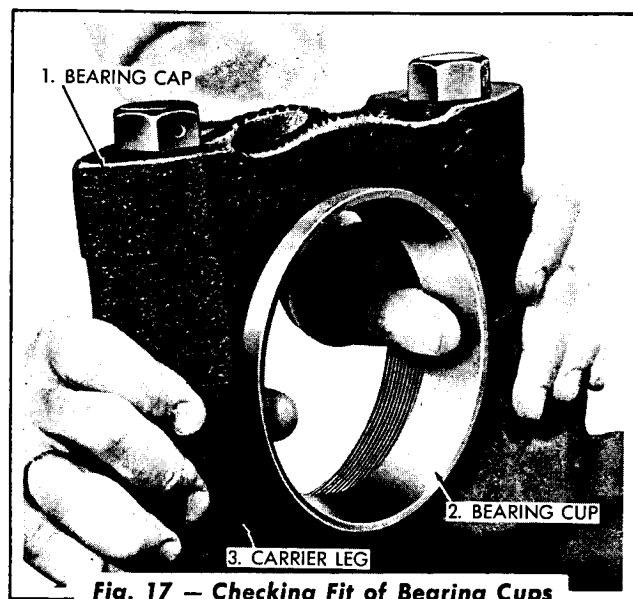

Fig. 17 – Checking Fit of Bearing Cups
L. Installation of Carrier Cups in Carrier Leg Bores (Fig. 17)
Temporarily install the bearing cups, the threaded adjusting rings and bearing caps. Install the bearing cap capscrews and tighten to the proper torque. The bearing cups must be of a hand push fit in their respective bores (Fig. 17). If the bearing cups are not a hand push fit, the bores must be reworked until a hand push fit is obtained. Use a bearing scraper or emery cloth for reworking. Check work progress often.